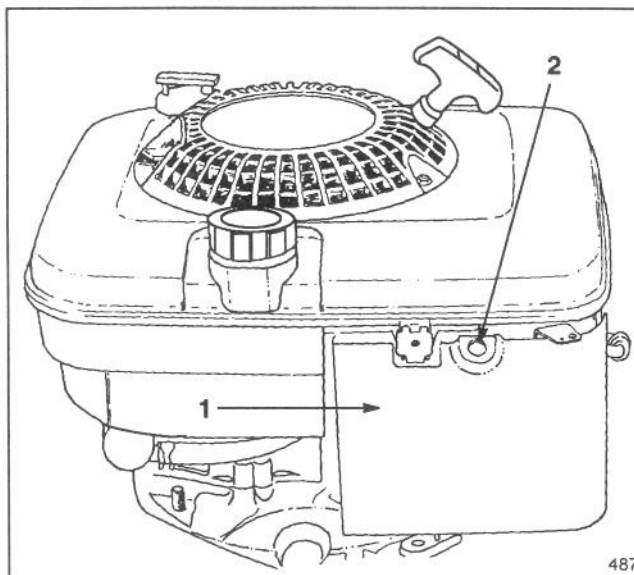

Figure 15
2. Remove screw securing air cleaner cover to engine (Fig. 15). Tilt cover down and clean cover thoroughly.